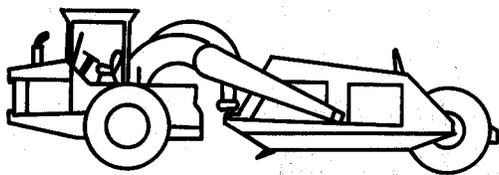

Figure 1 – Open bowl loading
5.1.1.1 Open bowl loading (figure 1)